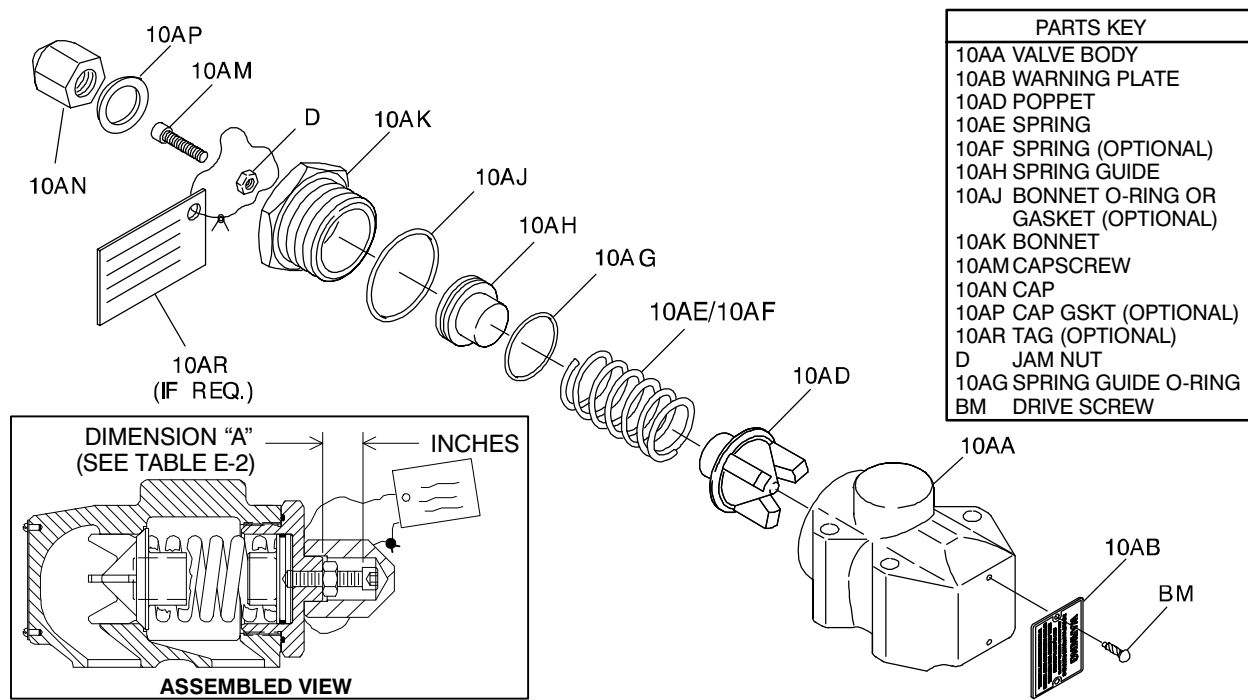

Figure E-7. Pressure Relief Valve Assembly
(Figure E-7)
Install the jam nut (D) on the adjustment cap screw (10AM), and thread the cap screw into the bonnet until the desired height ("A", Figure E-7) is reached. Refer to the separate Parts List accompanying your pump, and determine the specific hydraulic size (D, G or J). See Table E-2 and adjust the cap screw (10AM) to the proper "A" dimension for desired cracking pressure.